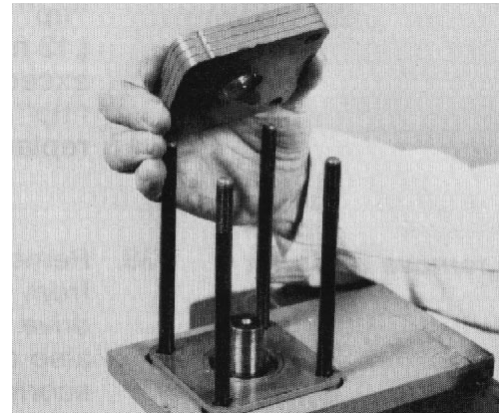

Figure 56
43. Remove the upper cover plate (four plates bonded together) (Fig. 56). Inspect the upper cover plate. You should notice some polishing due to the action of the seal. The plate should be free of brinelling (dents) or spalling (flaking). If it is damaged, the upper cover plate must be replaced.